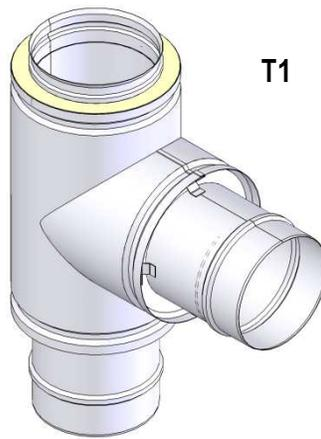
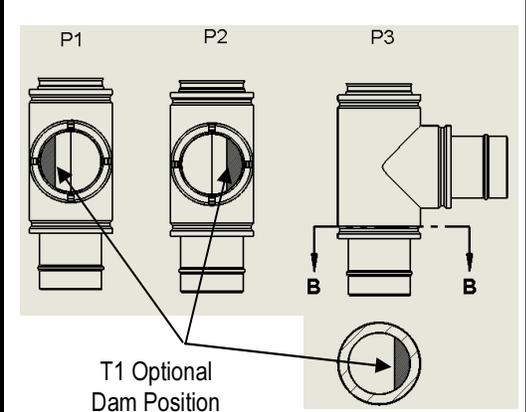

Figure 44
Figure 45
1) **T1 Grease Tee (Figure 44)** is your basic 90° Tee fitted with a grease Dam. Refer to **Figure 45** for dam position.